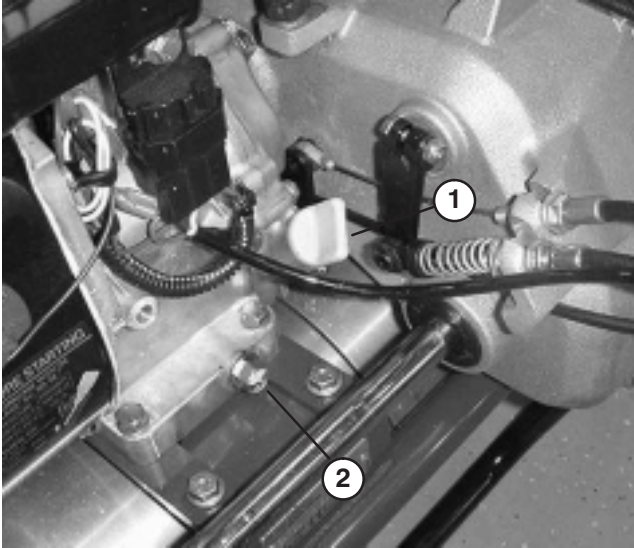

Figure 29
1. Position mower so the engine is level and clean around oil level gauge (Fig. 29).
2. Place a drain pan at rear of machine under drain plug (Fig. 29). Remove drain plug.